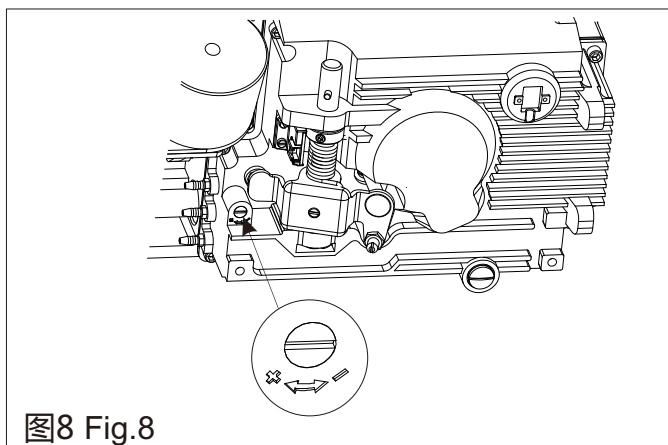
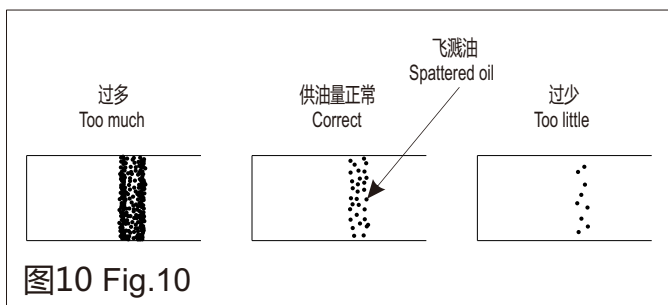
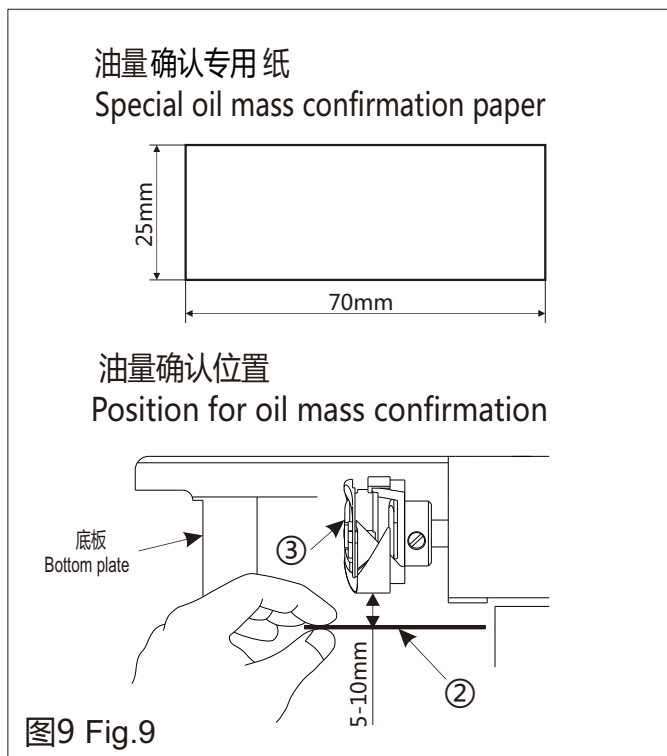

图8 Fig.8
图10 Fig.10
图9 Fig.9
7 旋梭油量调节 (图8、图9、图10) Oil mass Adjustment of Rotating Hook (Fig. 8 , Fig. 9 , Fig. 10)
1) 上图标样(见图10)可根据不同的缝纫工序需求进行增或减的微调整,但应注意不要增加或减少过多。油量过少时会引起旋梭发热,油量过多时会污染缝料。
1) The guide sample shown in the right-hand figure(see Fig. 10) may be finely adjusted (increased or reduced) as per different sewing processes; however, excessive increase or reduction shall be avoided. Too little oil mass may lead to rotating hook heating, and over much oil mass may lead to contamination of the sewing materials.